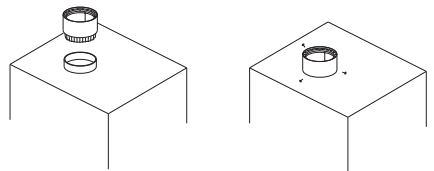

Figure 10
• **Round outlets (Figure 10)**